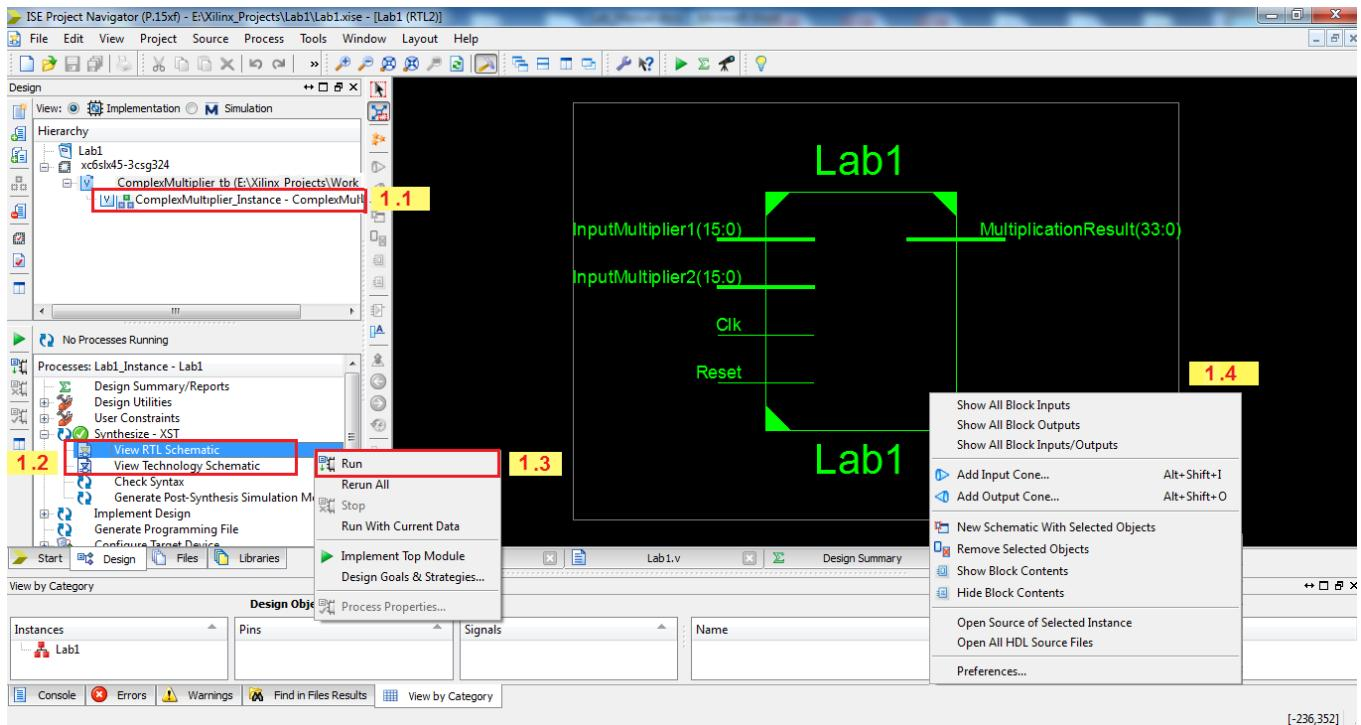

Figure 16.
1. View the RTL/Technology Schematics (Figure 16)